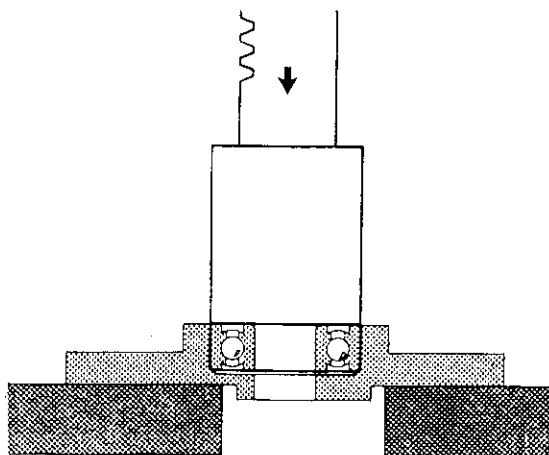

Figure 6.20
13. Press the upper end plate bearing (25) into the upper end plate (28) as shown in Figure 6.20. A slight warming of the end plate will aid in installing bearing. Install a new seal (24) on the bearing cover (23) and install the bearing cover using the four bearing retainer screws (21). Torque screws to 25-30 in. lbs. (2.8 to 3.4 N·m). Place a new end plate seal (29) in upper end plate.